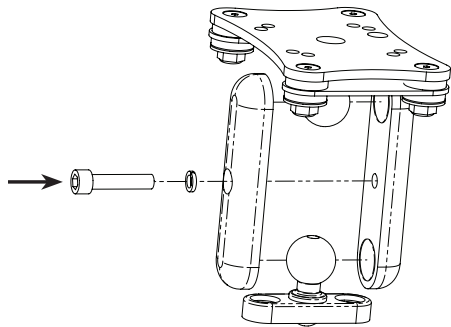

Figure 3a
5. Using the $5/32"$ Hex Key, loosely reassemble the mount as shown in Figures 3a and 3b.